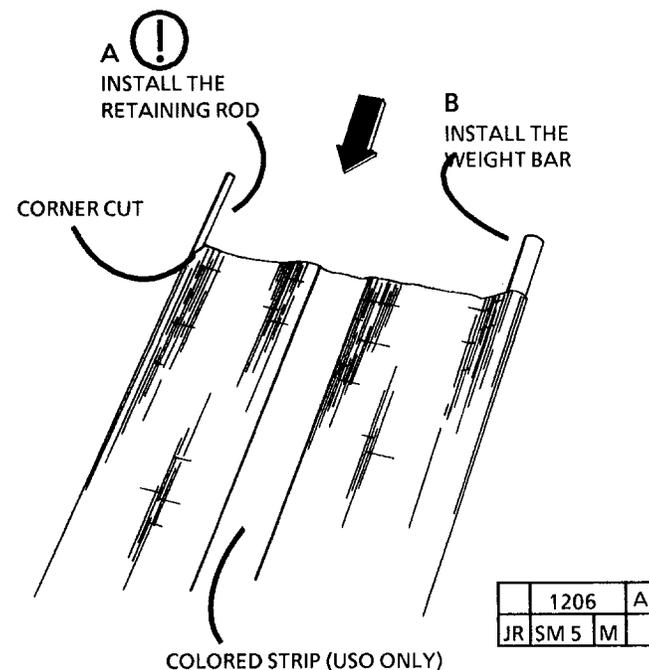

Figure 2. Install the Retaining Rod and the Weight Bar into the Fabric Guide
- (FIGURE 2): INSTALL THE RETAINING ROD AND THE WEIGHT BAR INTO THE FABRIC GUIDE.